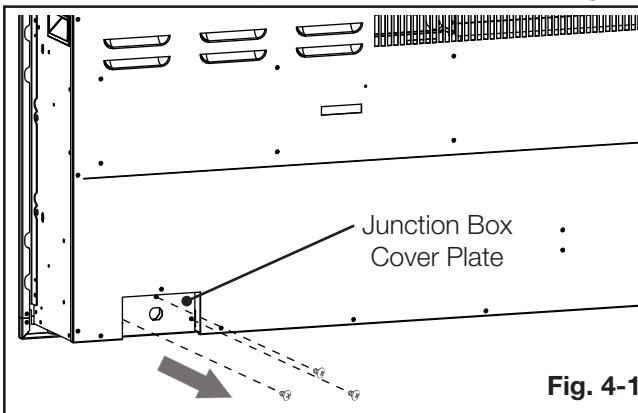

Fig. 4-1
- Remove the 3 securing screws from the junction box cover plate, located on the bottom left hand side of the appliance (**Fig. 4-1**).